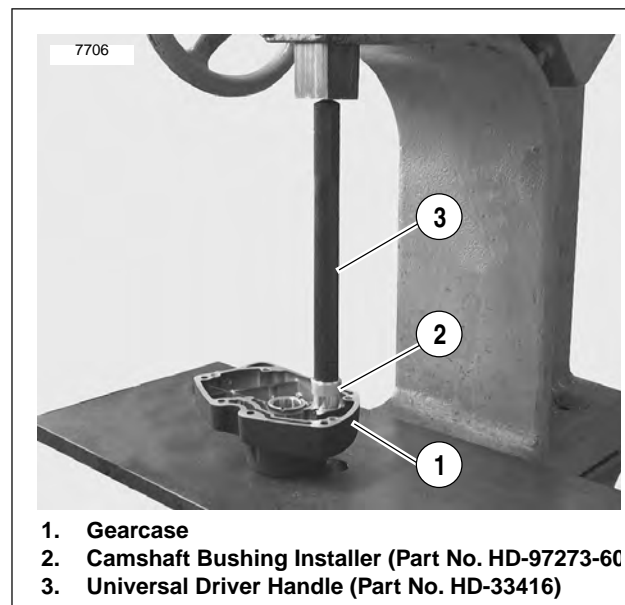

Figure 3-104. Arbor Press
- See Figure 3-104. Using an arbor press, install each bushing in its gearcase cover bore so that bushing shoulder contacts cover boss. Position each bushing so the oiling slot is at the 3 o'clock position within the gearcase cover bore.